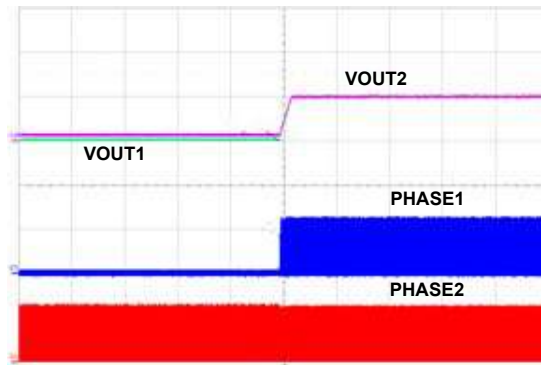

Figure 5. VOUT2 Tracking VOUT1 when Channel 1 is Enabled
- (1) Choose the RSET on SS/Track pin based on the desired Ton/off delay and ramp time (refer to the "VSET_FINE Settings" table in the RAA210925 datasheet). Populate this chosen resistor value at placeholder R6 on the RTKA2109252H00000BU evaluation board.
- (2) Connect VOUT1 to VTRKP by populating a 0Ω resistor at R30.
- (3) Connect VTRKN to GND by populating a 0Ω resistor at R33.
- (4) Populate RVSET1 and RVSET2 with 0Ω resistors to set VOUT_COMMAND of VOUT1 and VOUT2 to 1V.
- (5) Enable Channel 2 first, then enable Channel 1.
- (6) Observe the VOUT1, VOUT2, PHASE1, and PHASE2 waveforms on an oscilloscope. VOUT2 follows VOUT1 as shown in Figure 5 on page 10.